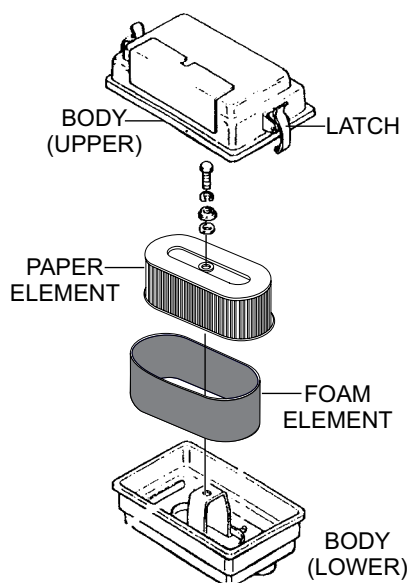

Figure 16. Engine Air Cleaner
2. Release the retaining latches (Figure 16) on both sides of the air cleaner **upper** body (cover).